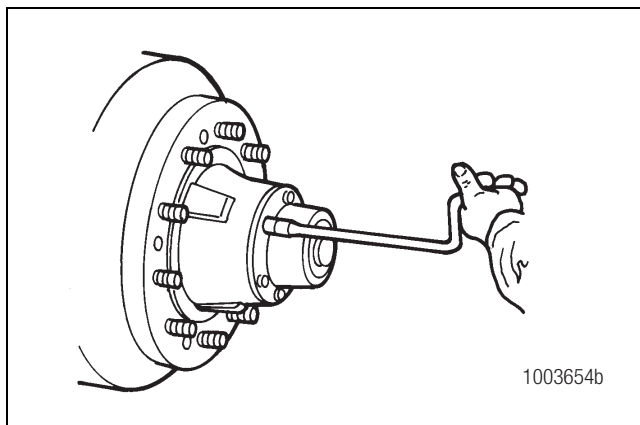

Figure 1
1. Place a container under the hubcap to receive the draining oil. Then, remove the hubcap and hubcap gasket from both ends of the axle. Figure 1. Do not reuse either the hubcap gasket or the oil.